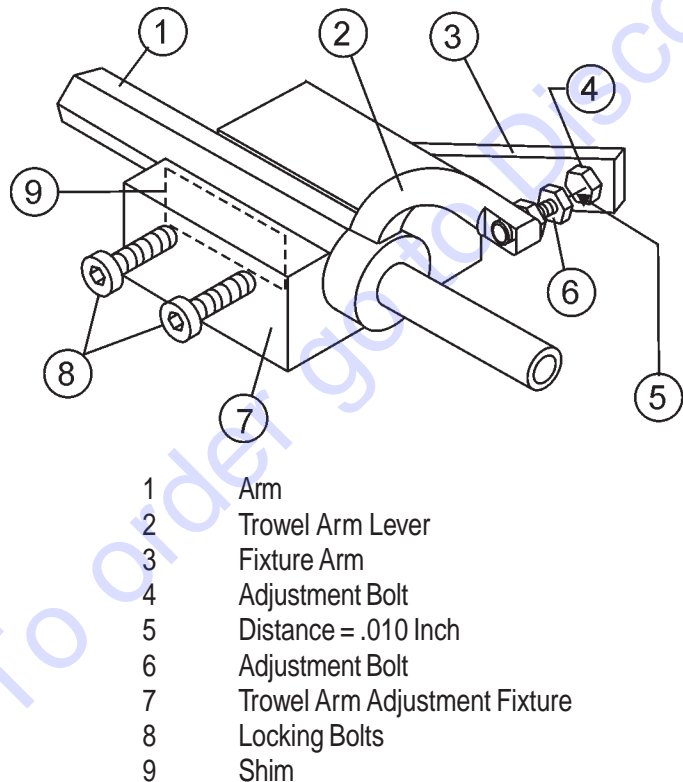

Figure 31. Trowel Arm Adjustment Fixture Components
Shown in (Figure 31) is the adjustment fixture with a trowel arm inserted. As each trowel arm is locked into the fixture, the arm bolt is adjusted to where it contacts a stop on the fixture. This will consistently adjust all of the trowel arms, keeping the finisher as flat and evenly pitched as possible.
3. Unscrew the locking bolts on the adjustment tool and place the trowel arm into the fixture channel as shown in Figure 31. A **thin shim** may be required to cover the blade holes on the trowel arm. Make sure to align the **trowel** adjustment bolt with the **fixture** adjustment bolt.